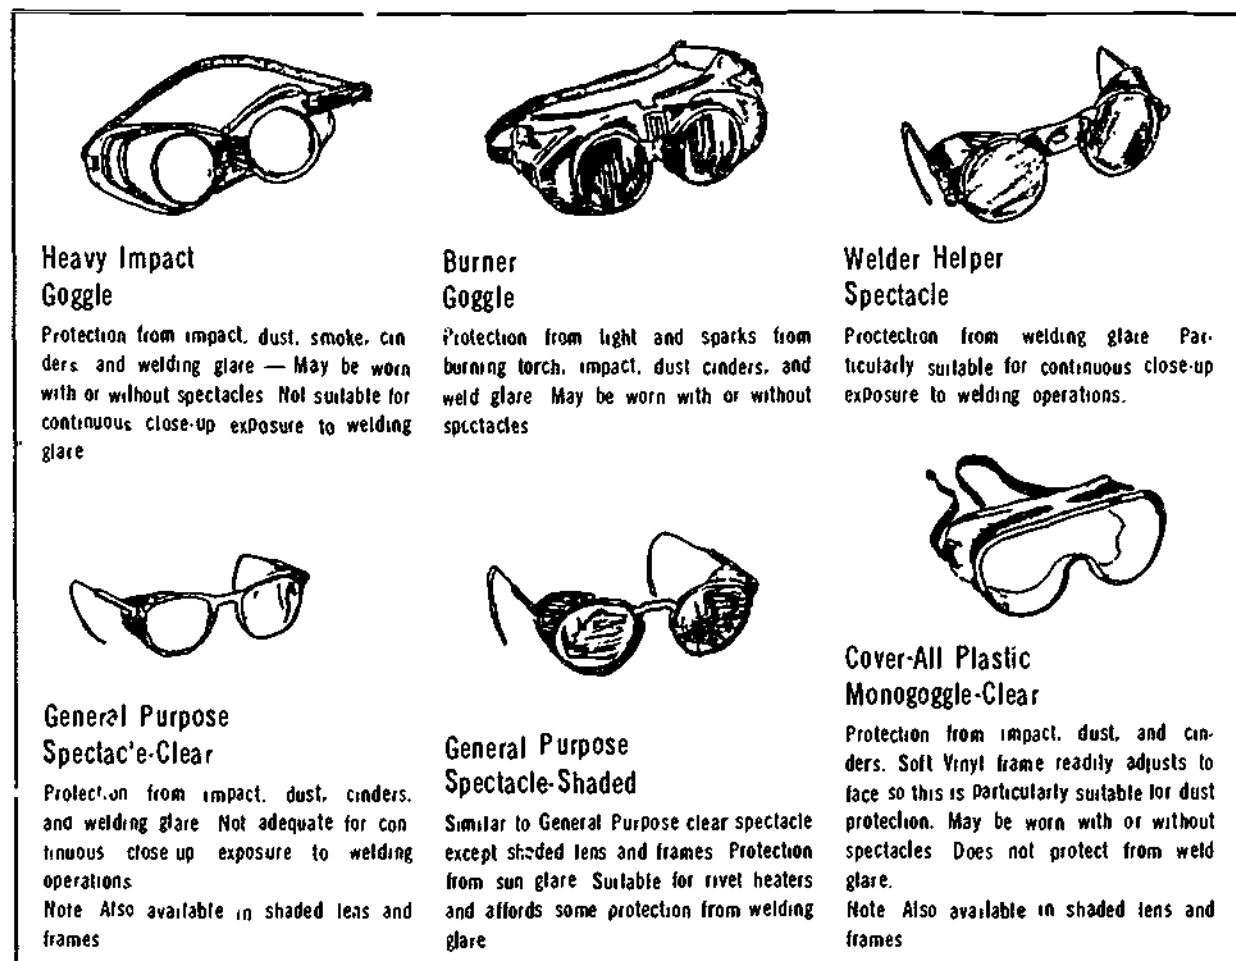

Figure 8-40. Types of Protective Eye Wear
1. Proper eye protection (face shields, safety goggles, etc.) must be worn for all work involving flying particles, e.g., grinding, chipping, drilling, slag removal or similar jobs. Figure 8-40 illustrates various types of protective eye wear.